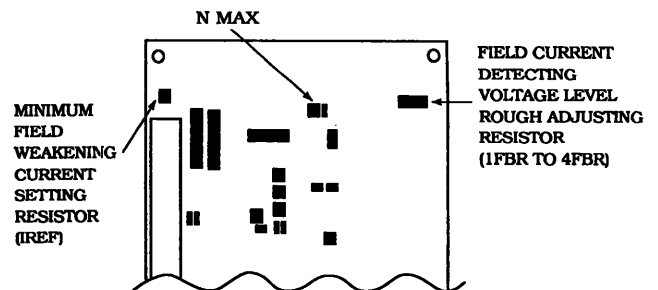

Fig. 13 Adjusting Potentiometers
3. When the indicated value by the tachometer is higher than the marked speed, turn the speed feedback adjusting potentiometer (N MAX) clockwise to match the maximum speed. If the indicated value is lower, turn the potentiometer counterclockwise, Fig. 13.